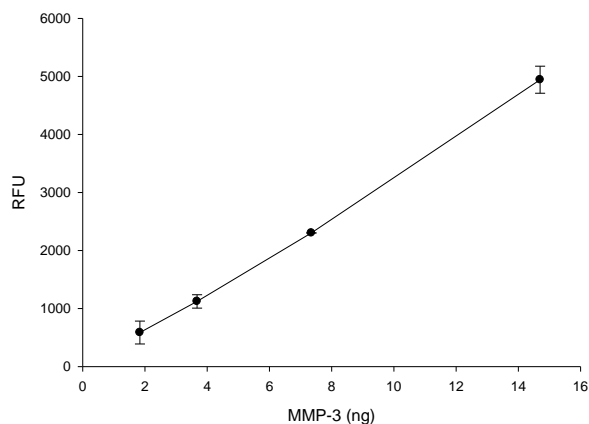

Figure 1. Detection of MMP-3 activity with the SensoLyte[®] 520 MMP-3 assay kit.
- Plot data as RFU versus concentration of test compounds or enzyme concentration (Figure 1).